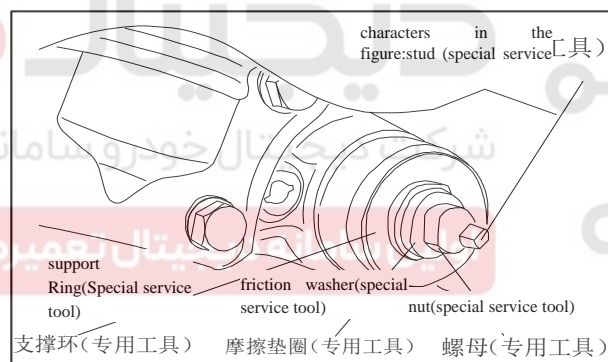

Figure 4-44 Install Bearing into Rear Axle Tube
- 3) On the left, put needle bearing and installation tool into rear axle tube (as shown in Figure 4-44), lean special service tool thrust washer (special service tool) against axle tube bracket, with its regulated nut component (special service tool).